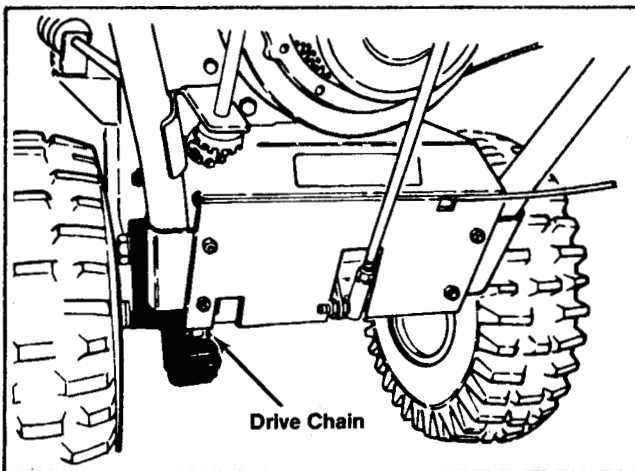

Figure 1
1. Annually lubricate the drive chain with chain lubricant. See Figure 1. Wipe up any excess oil.